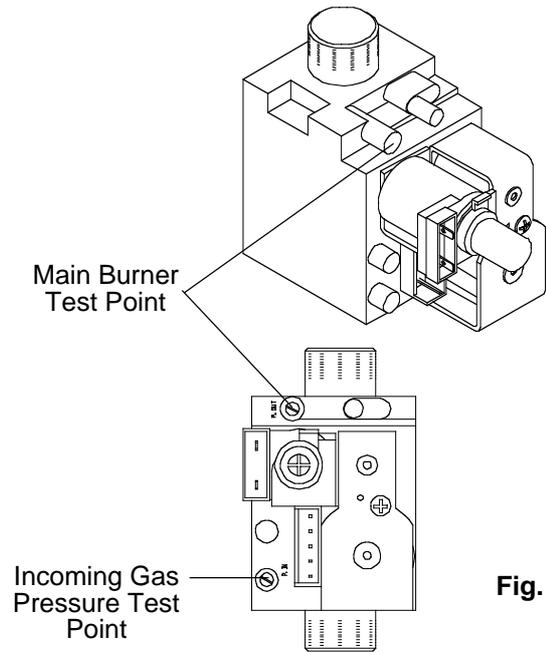
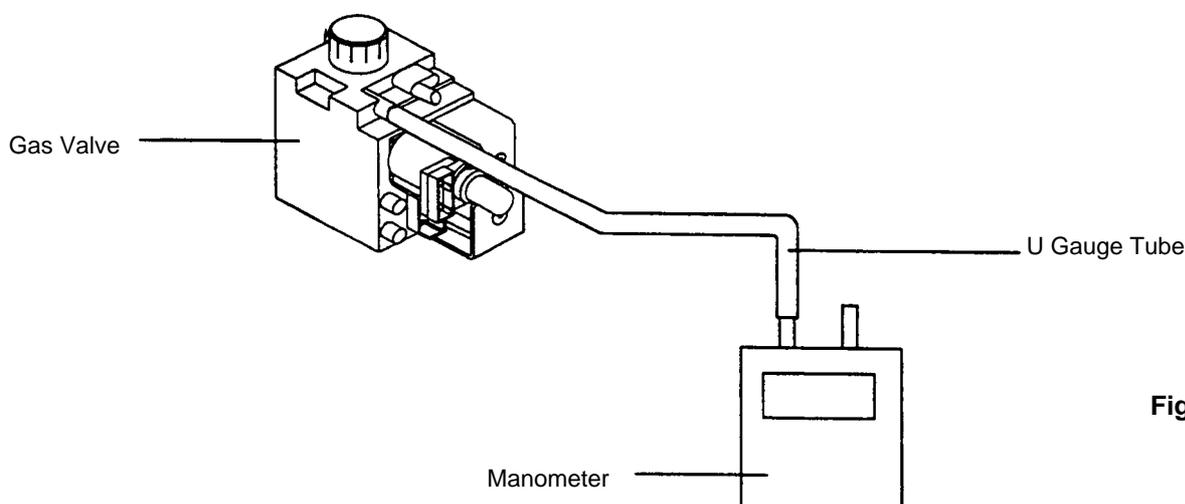

Fig. 19
Fig. 22
6.6.5 Locate the main burner pressure test point (fig. 19) and slacken the screw half a turn in an anti clockwise direction. Attach a suitable U gauge tube between the test nipple and manometer (see fig. 22).